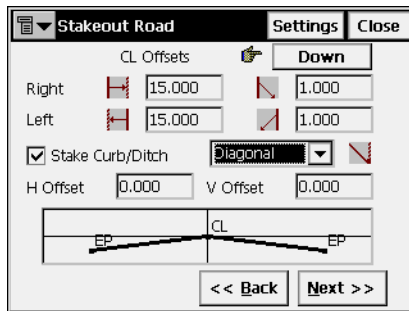

Figure 7-34. Stakeout Road
3. In the *Stakeout Road* screen, set the offsets from CL for the stakeout points (Figure 7-34) and tap **Next**.